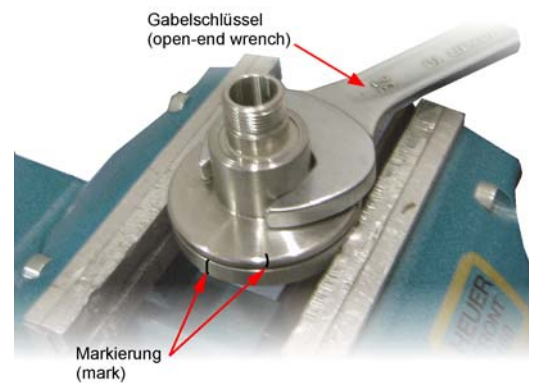

Fig. 7
- Screw together manually thrust collar (4) and piston plate upper (5) without O Ring (D3) and diaphragm (D2) until metallic stop position and carry out colour marking (Fig. 7/page 10).
- Once again screw off thrust collar (4) from piston plate upper (5).
- Insert O Ring (D3) into thrust collar (4).
- Install plain bearing (D4) in piston plate upper (5)
- Insert back up ring in piston plate upper (5).
- Put diaphragm (D2) on piston plate upper (5).
- Screw on thrust collar (4) on piston plate upper (5).